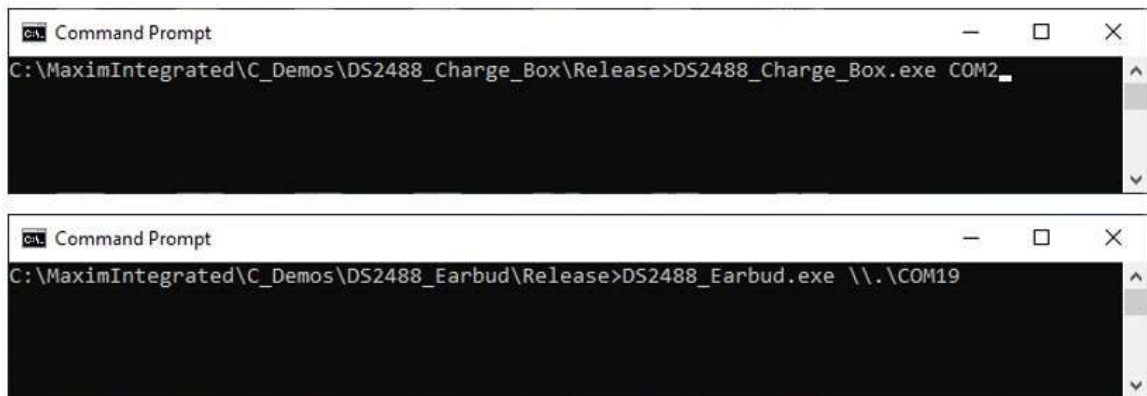

Figure 4. DOS command prompts.
2. Open the two DOS command prompts and navigate to each program's unzipped location. Then, execute the 'DS2488\_Charge\_Box.exe' and the 'DS2488\_Earbud.exe' passing the COM port as a parameter as shown in **Figure 4**.